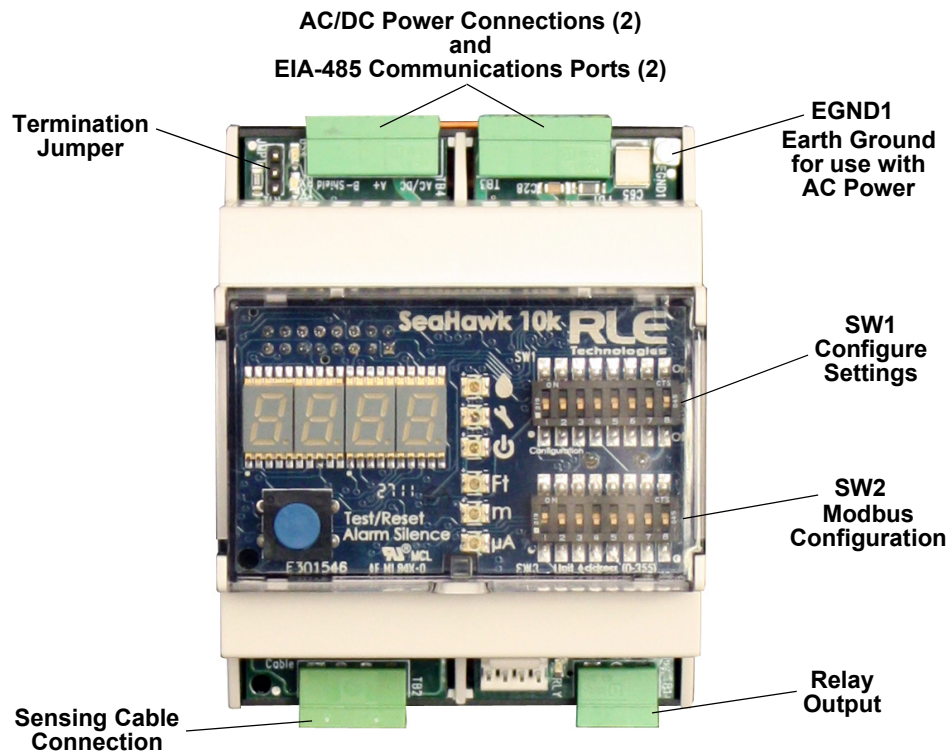

Figure 2.1 SeaHawk 10K Physical Inputs
- Figure 2.1 SeaHawk 10K Physical Inputs. 14